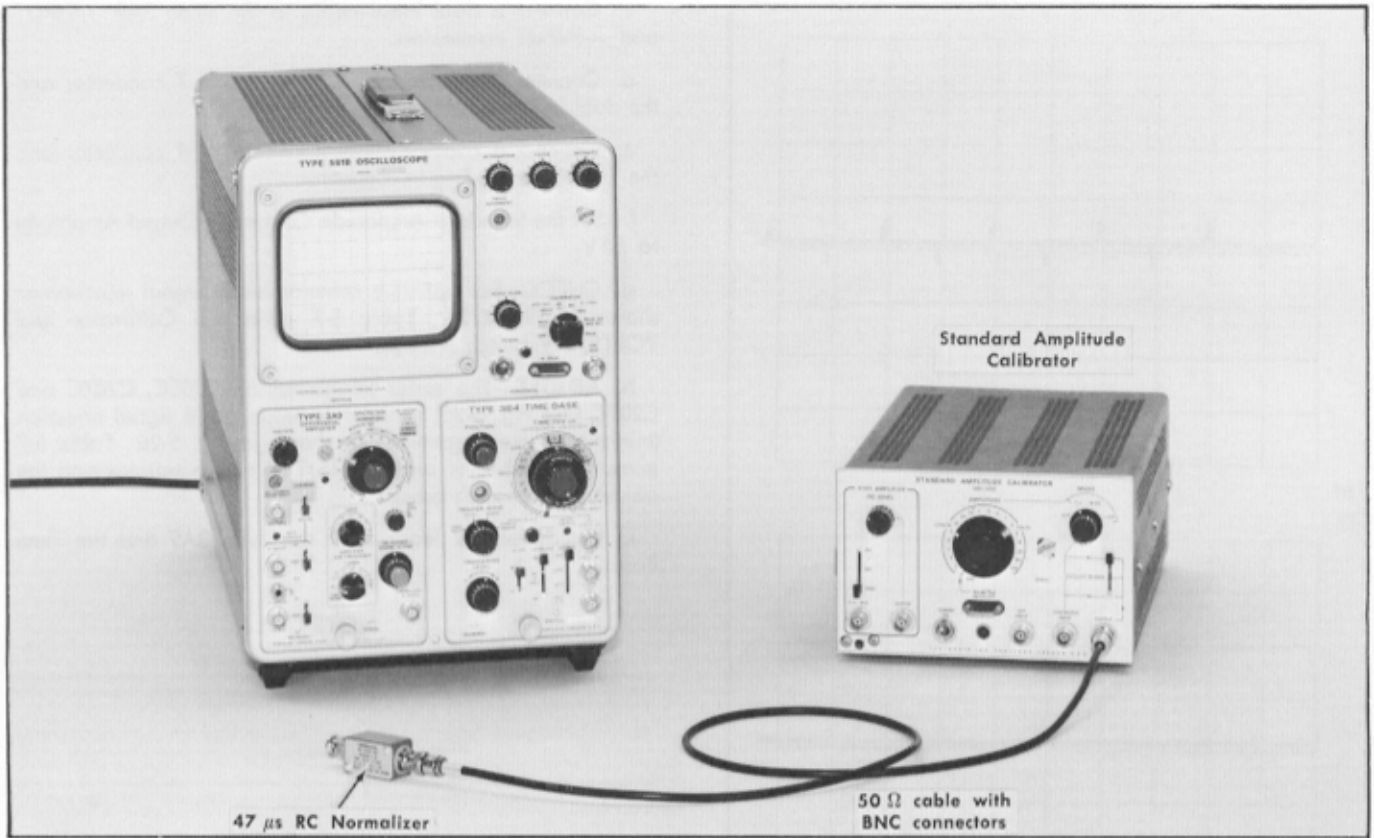

Fig. 5-27. Equipment required for step 21.
21. Check or Adjust — INPUT Attenuator Shunt Compensation ①
- a. Test equipment is shown in Fig. 5-27.
- e. CHECK—The display for optimum square wave as shown in Fig. 5-27, using the Standard Amplitude Calibrator Amplitude and Type 3A9 VOLTS/DIV settings listed in Table 5-8.